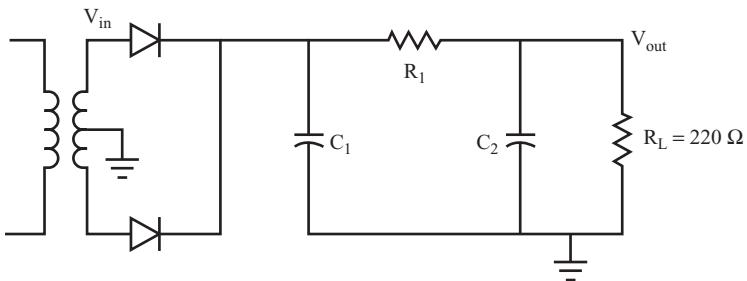

FIGURE 11.56
6. In the circuit shown in Figure 11.56, $100 \text{ V}_{\text{rms}}$ at 60 Hz appears at the secondary coil of the transformer; 28 volts DC with as little AC ripple as possible is required across the 220-ohm load. Find R_1 , C_1 , and C_2 . Find the approximate AC ripple.